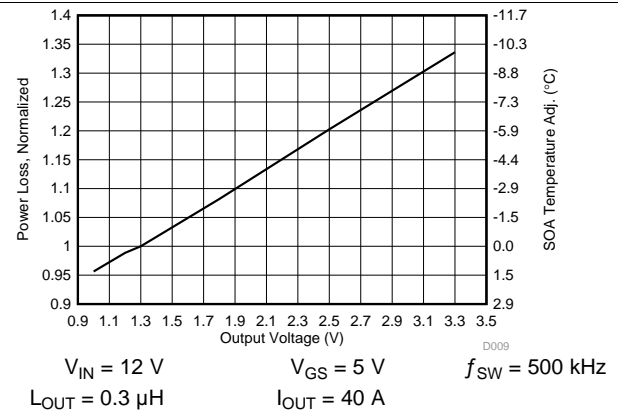

Figure 8. Normalized Power Loss vs Output Voltage
- Normalized Power Loss for output voltage  $\approx 0.95$  (Figure 8)
- SOA adjustment for output voltage  $\approx -1.3^\circ\text{C}$  (Figure 8)